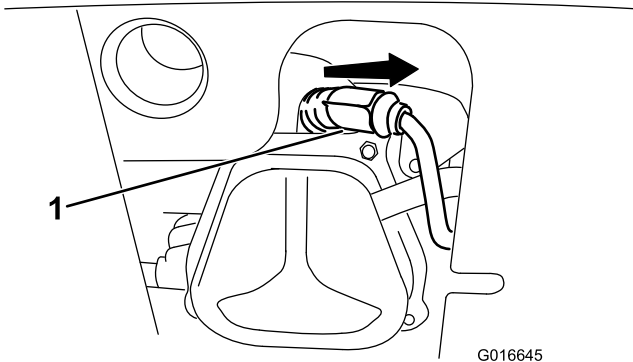

Figure 35
1. Remove the boot (Figure 35).